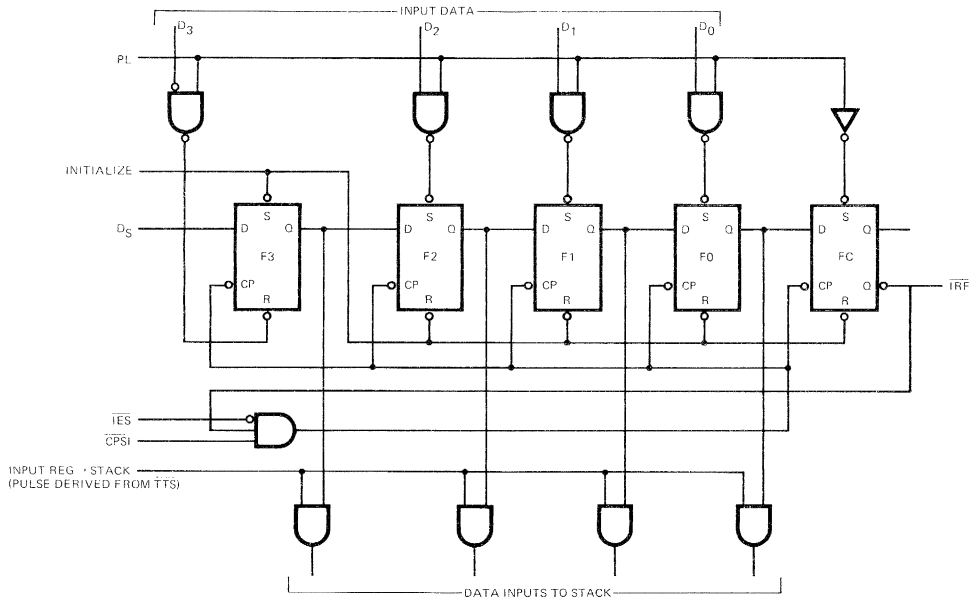

Fig. 1
Figure 1 is a conceptual logic diagram of the input section. As described later, this 5-bit register is initialized by setting the F3 Flip-Flop and resetting the other flip-flops. The Q̄ Output of the last Flip-Flop (FC) is brought out as the "Input Register Full" output (IRF). After initialization this output is HIGH.